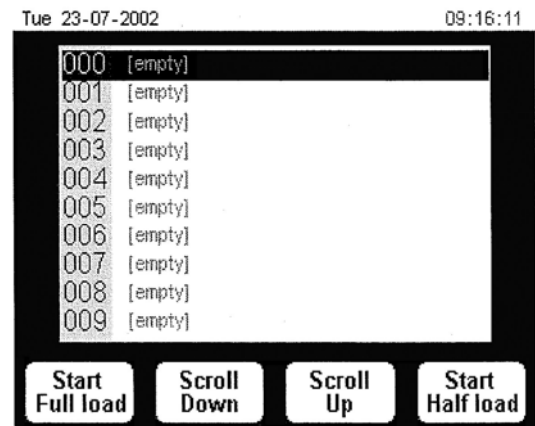

Figure 2-2
4. Press Button 4 (which corresponds to the “select product” option in Figure 2-1) and the program list will appear (Figure 2-2). If the oven has not been programmed, see the section on programming on page 3.
- Upon pressing the Stop button, the screen will revert to the program screen (Figure 2-2).